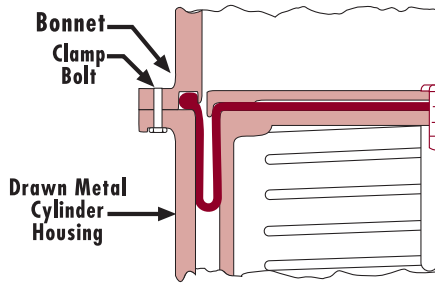

Fig. 30: Grooved Bonnet
**Grooved Bonnet (fig. 30)** – In some installations it is desirable to use a drawn metal cylinder housing with a molded or die cast bonnet. In installations of this nature it is recommended to make a provision for the bead groove in this molded or cast bonnet. The housing should be retained by a sufficient number of circumferential clamp bolts to prevent distortion between flange bolts.